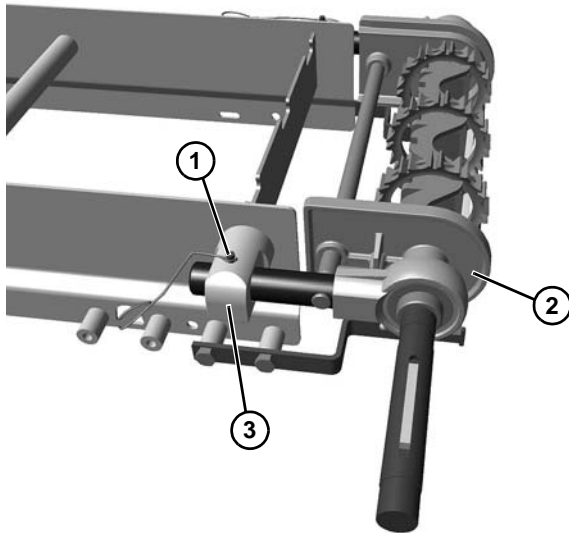

Figure 53
5. Remove the pull pin (Figure 53, item 1) from both sides of drive tail assembly.
6. Slide the drive tail assembly (Figure 53, item 2) out of the take up blocks (Figure 53, item 3).